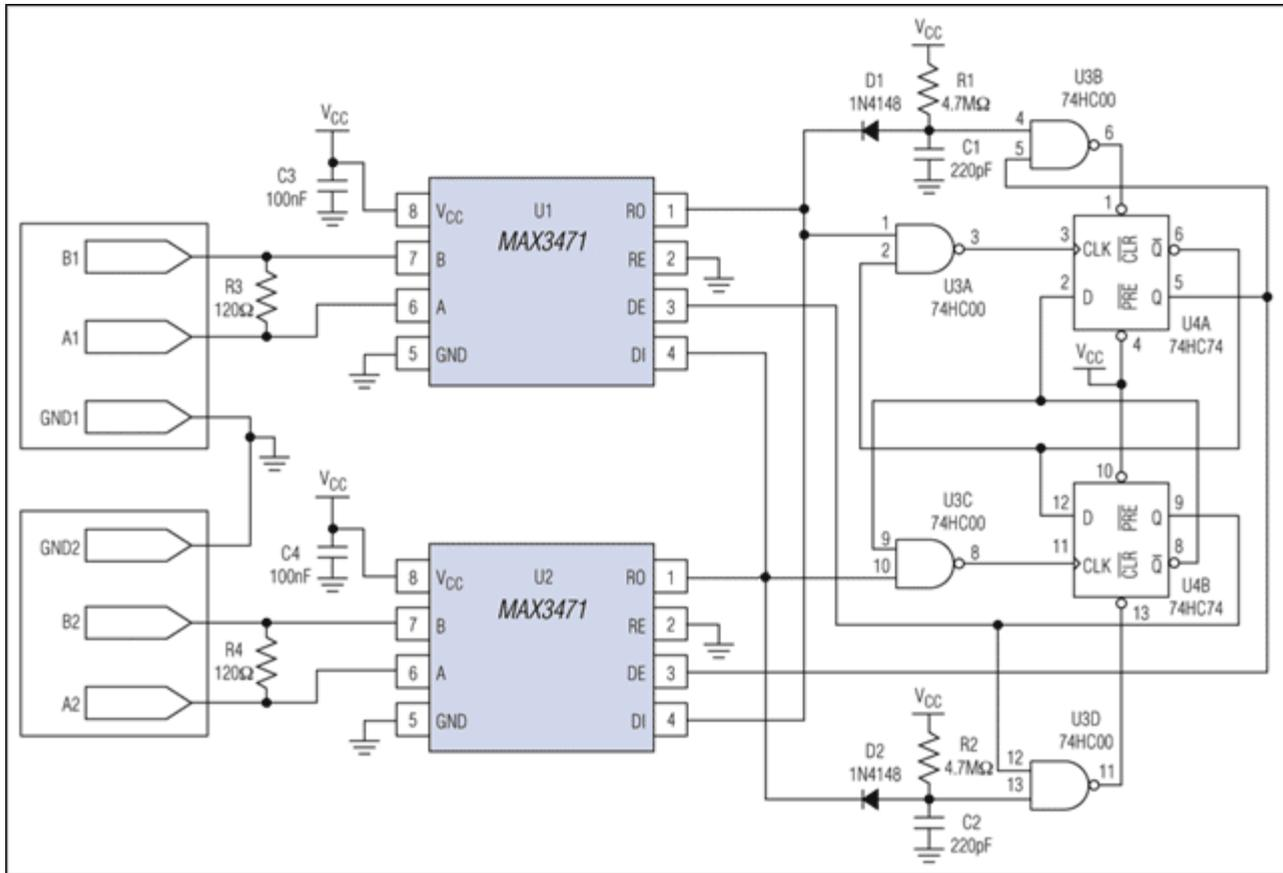

Figure 1. This RS-422 repeater draws only $3\mu\text{A}$ of standby current.
Abstract: The RS-422 interface is an excellent choice for communicating in noisy environments and over a distance. But, when the distance exceeds the RS-422 capability for reliable data transfer, you must add a repeater. The repeater circuit of Figure 1, which must operate from batteries when no power supply is available, draws less than 3 μ A of current from a 3V supply.
The RS-422 interface is an excellent choice for communicating in noisy environments and over a distance. However, when the distance exceeds the RS-422 capability for reliable data transfer, you must add a repeater. The repeater circuit in **Figure 1**, which must operate from batteries when no power supply is available, draws less than 3 μ A of current from a 3V supply.
Low standby power and true fail-safe operation are the key features in this application. U1 and U2 drive their receiver outputs (RO) high when the RS-422 inputs are open circuited or terminated and undriven. An incoming data byte on the differential inputs A1 and B1 forces a transition on RO of U1, and a state machine (right half of the Figure 1 schematic) is latched ON by the falling edge of RO. The state machine asserts a high level at U2's driver-enable pin, causing the incoming data byte to be retransmitted from U2 at full RS-422 levels.
An incoming data burst (**Figure 2**, top) is retransmitted as outputs A2 (bottom trace) and B2 (middle trace). U2 de-asserts those outputs $700\mu\text{s}$ after the final transition. Other delays can be implemented by adjusting R1/C1 and R2/C2 as shown in Figure 1.